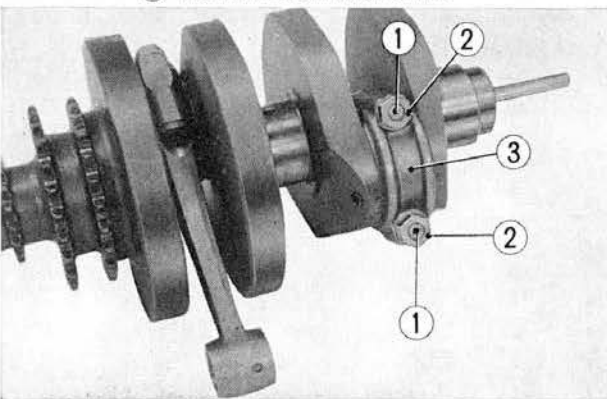

Fig. 3-77 ① Connecting rod bolts
16. Unscrew the connecting rod cap mounting bolts and remove the bearing cap from the large end, and then remove the connecting rod from the crankshaft. (Fig. 3-77)